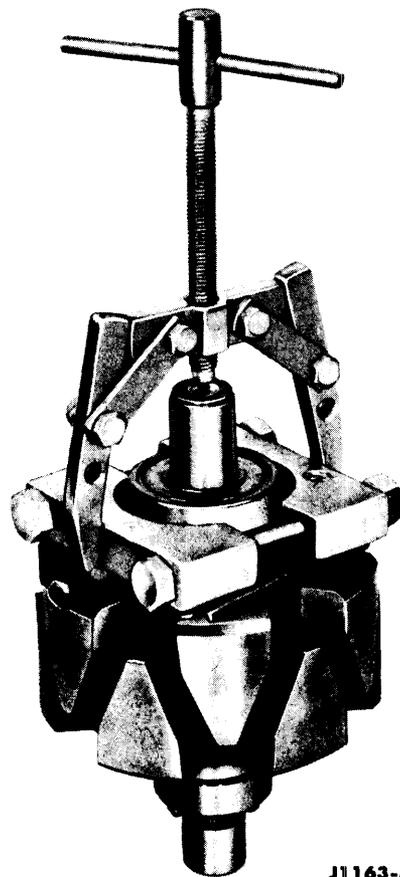

FIG. 46—Front Bearing Removal
12. If the bearing is being replaced, pull the bearing using a bearing puller (Fig. 46). Remove the bearing retainer and spacer. It will not be necessary to remove the stop ring, unless it has been damaged.